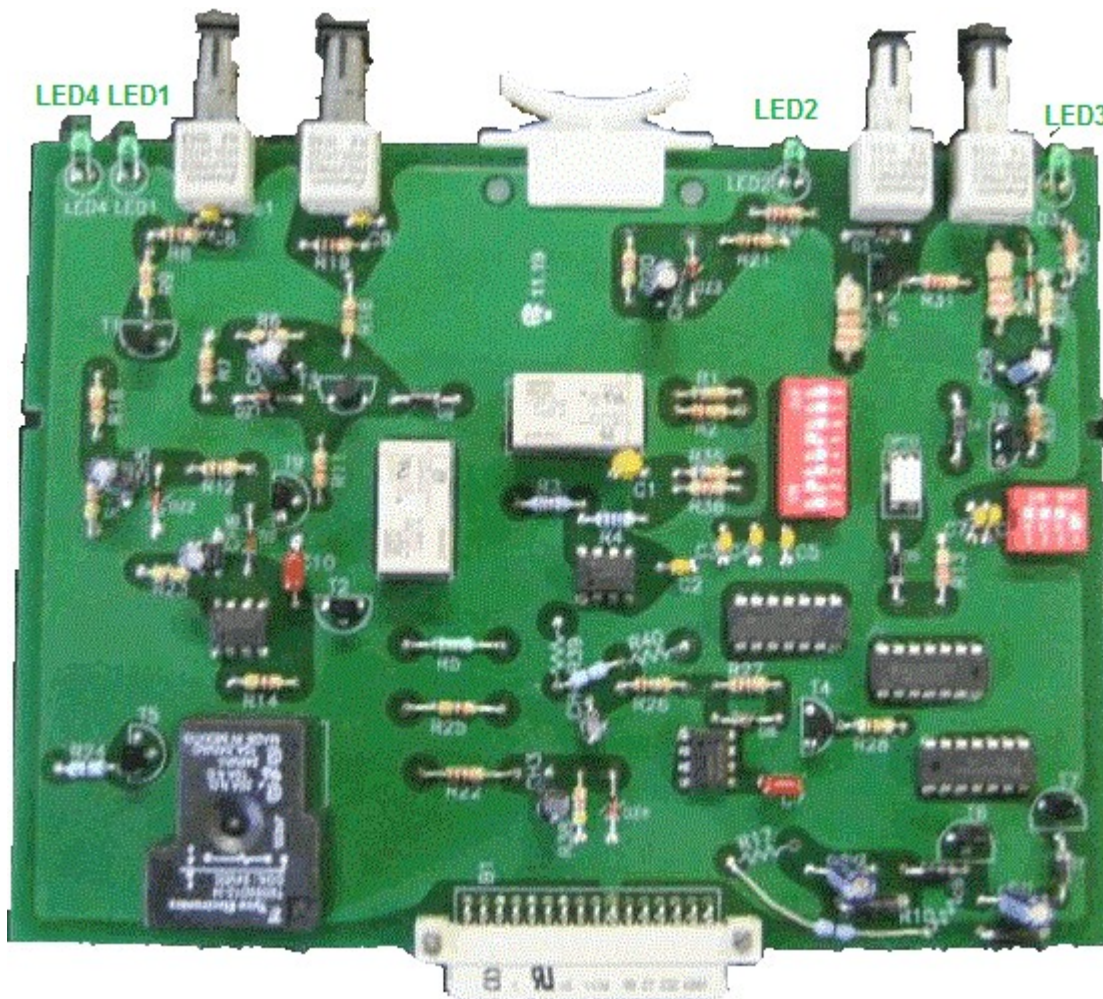

FIGURE 4-2. SYNCHRONISATION PRINTED CIRCUIT BOARD WITH OPTICAL TRANSMETER AND RECEIVER
4.2.1 Sync/Monitor Printed Circuit Board P/N113864 (Figure 4-2, page 16)
This system in option is implemented on the synchronisation card with 2 optical transmitters (between LED2 and LED3) and 2 optical receivers (close to LED4 and LED1), see figure 4.2 below). For cabling, see figure 1.1.